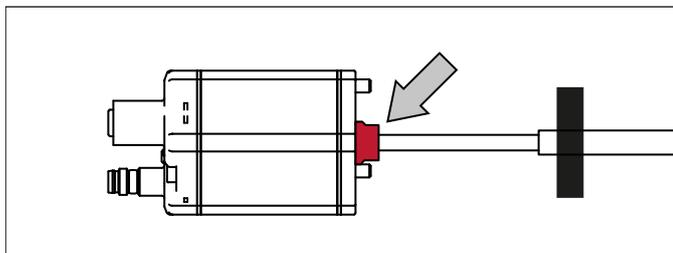

Fig. 34: Remove sealing before inserting into sensor rod HD/HL/HP
- The base unit is mounted by means of three screws. It is the only part that needs to be replaced if servicing is required, i.e. the hydraulic circuit remains closed. Before inserting the base unit into the sensor rod HD/HL/HP, remove the red sealing at the transition between the sensor electronics housing and the flexible sensor rod (Fig. 34). For more information see chapter “4.11.1 Replacement of base unit on the RH5/RFV/RF5 model” on page 69.